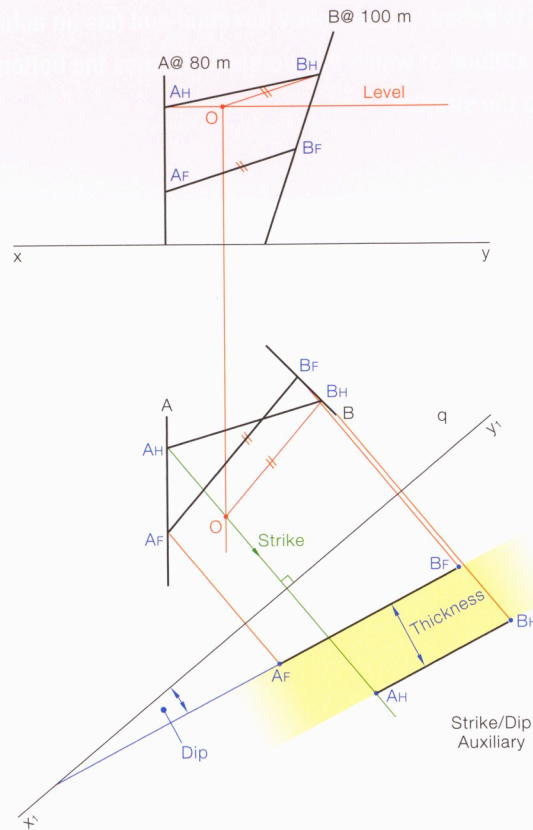

Fig. 19.31
- (1) Fig. 19.31 shows that by getting a view showing $A_H B_H$ and $A_F B_F$ appearing as parallel, the strike, dip and thickness of the stratum can be found.